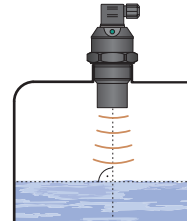

Fig. 1: Correct installation of the sensor, perpendicular to the liquid surface
- a) The device is installed in a vertical position into the upper lid of the tank or reservoir using a lug, a fastening nut or a flange in such a way that the axis of the device is perpendicular to the surface level of the measured liquid (Fig. 1). The device shall be installed in places with no risk of **mechanical damage to the front of the sensor**.